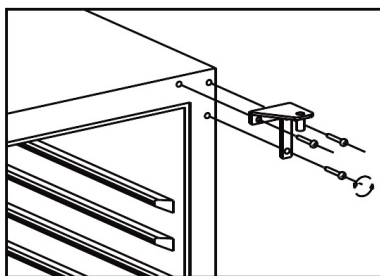

fig. 6.3
- Dismount the right top hinge and save it for later use. See fig. 6.3